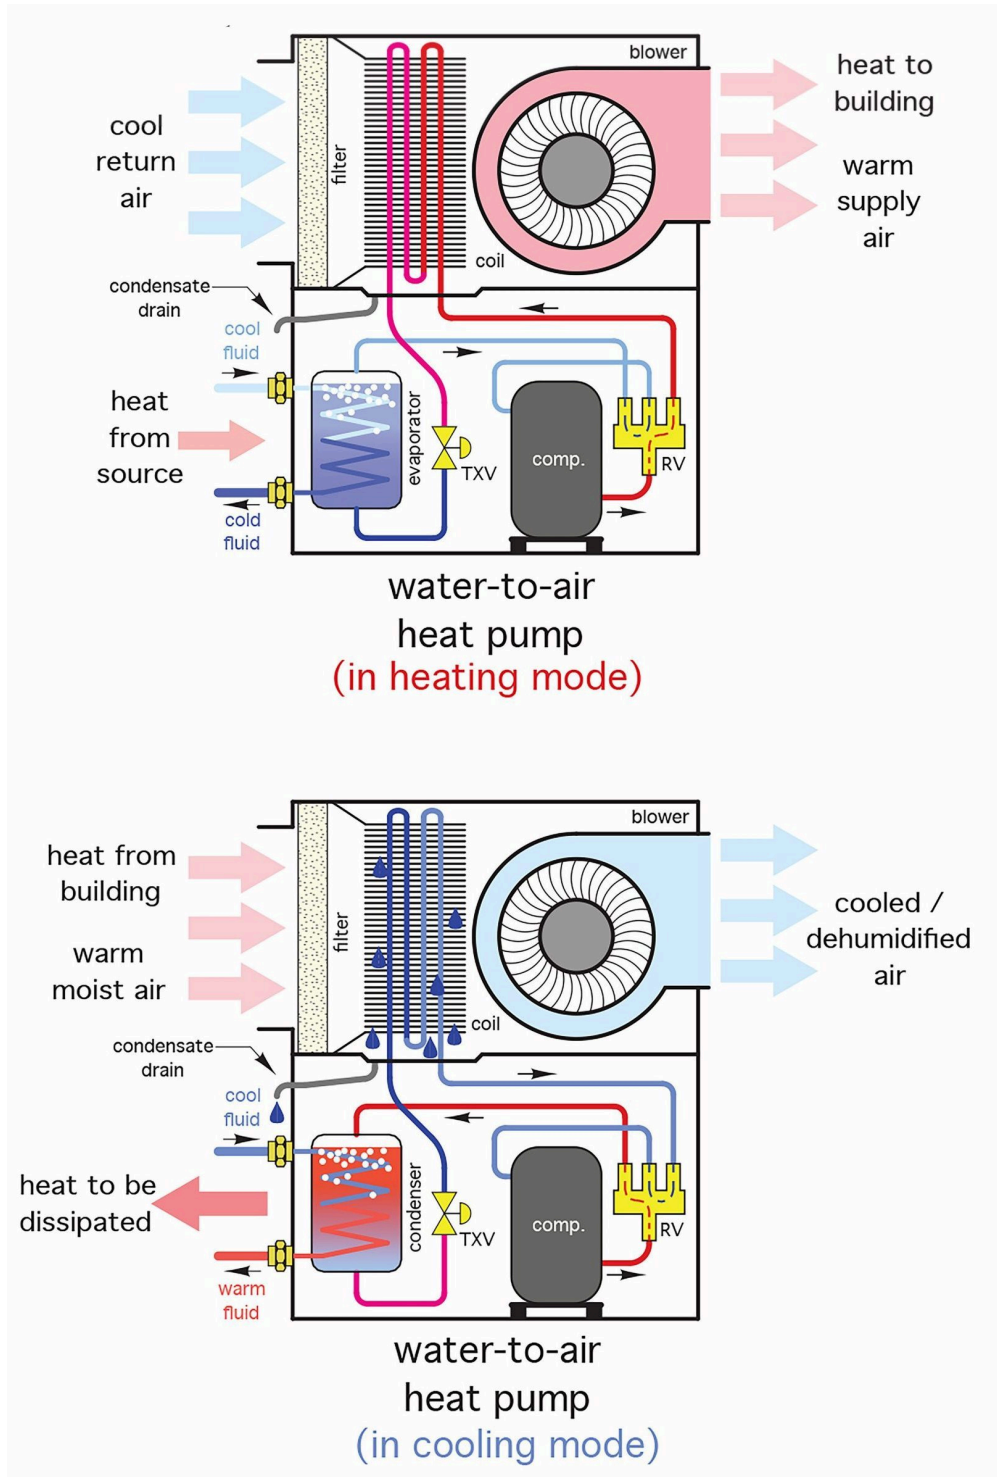

Figure 9 Reversible water-to-air heat pump
Figure 9 below is a schematic diagram of a reversible water-to-air heat pump.
- Figure 9 Reversible water-to-air heat pump © Caleffi Hydronic Solutions. Used with permission.